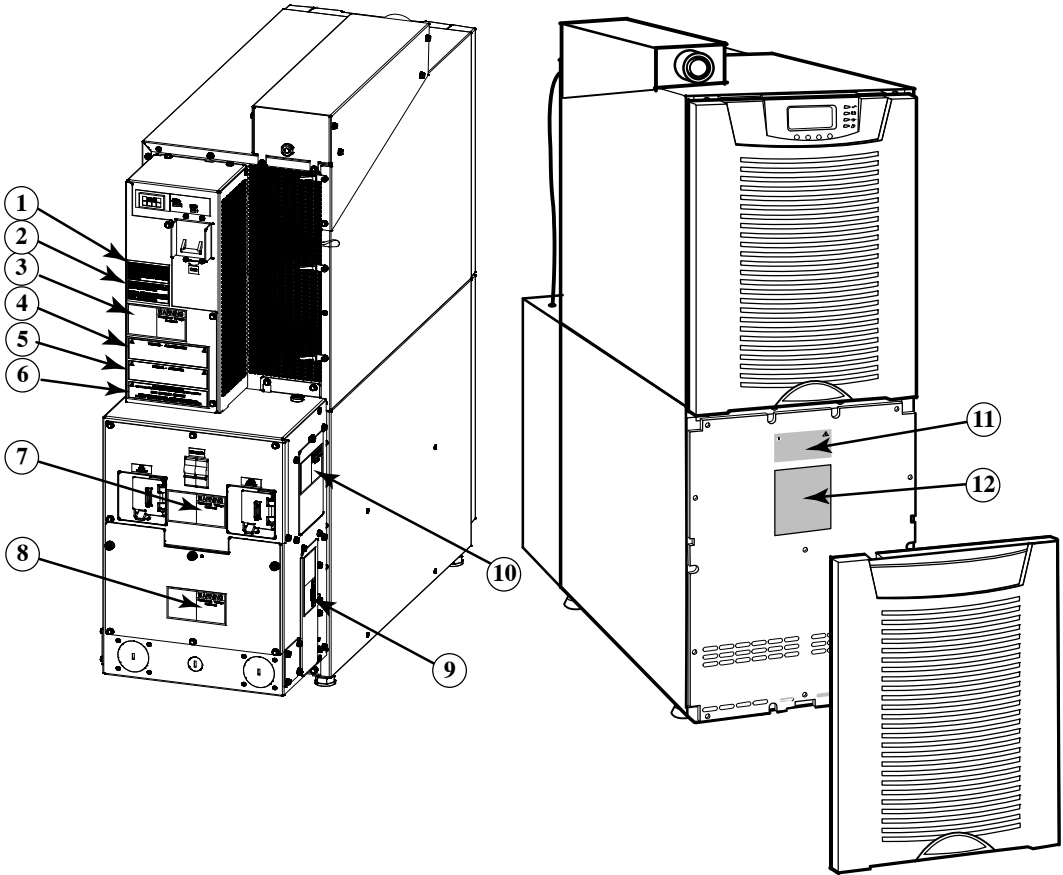

Figure 3. UPS Label Locations
- Hazard alert labels on the exterior of any cover that shields areas of hazardous voltage (see Figure 3).
Figure 3 and Table 2 describe the safety and other labels on the UPS.